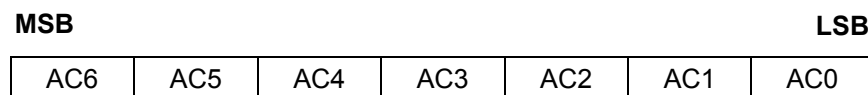

Fig.4. DDRAM Address
DDRAM stores display data of maximum 80 x 8 bits (80 characters). DDRAM address is set in the address counter (AC) as a hexadecimal number. (Refer to Fig.4.)